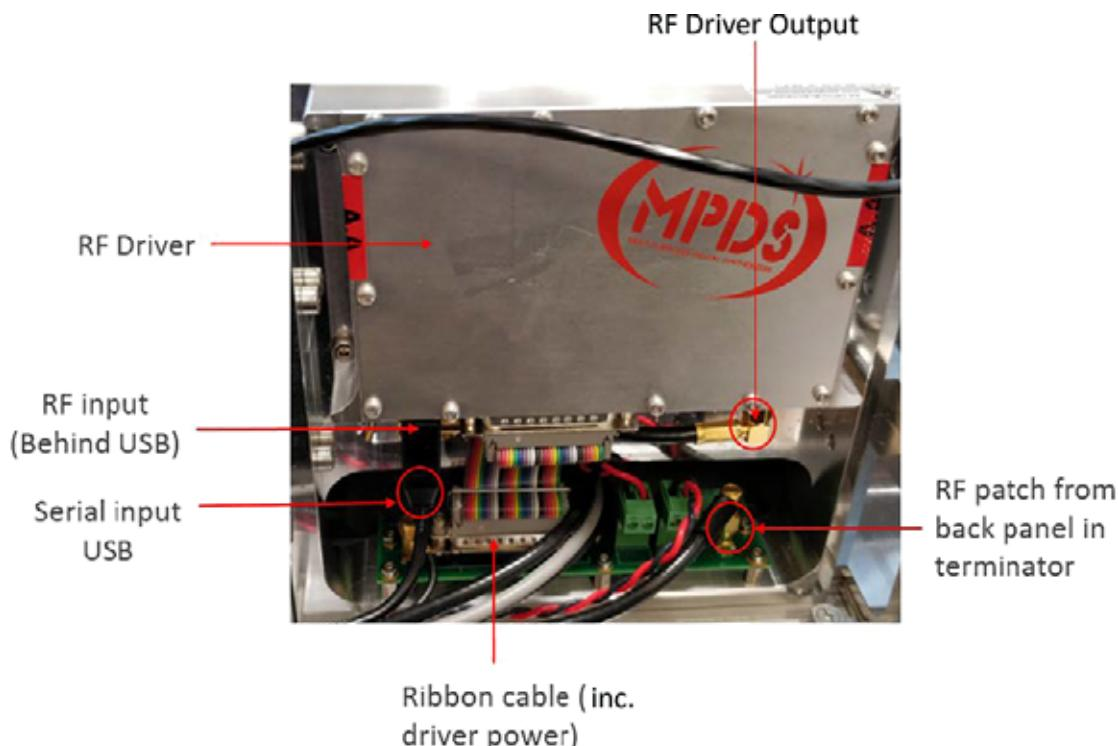

Figure 5.7-1. RF Drive Component Location
3. Carefully disconnect ribbon cable, avoiding pulling on wires, then remove serial and SMA connectors as shown in Figure 5.7-1.
5. Remake connections shown Figure 5.7-1.